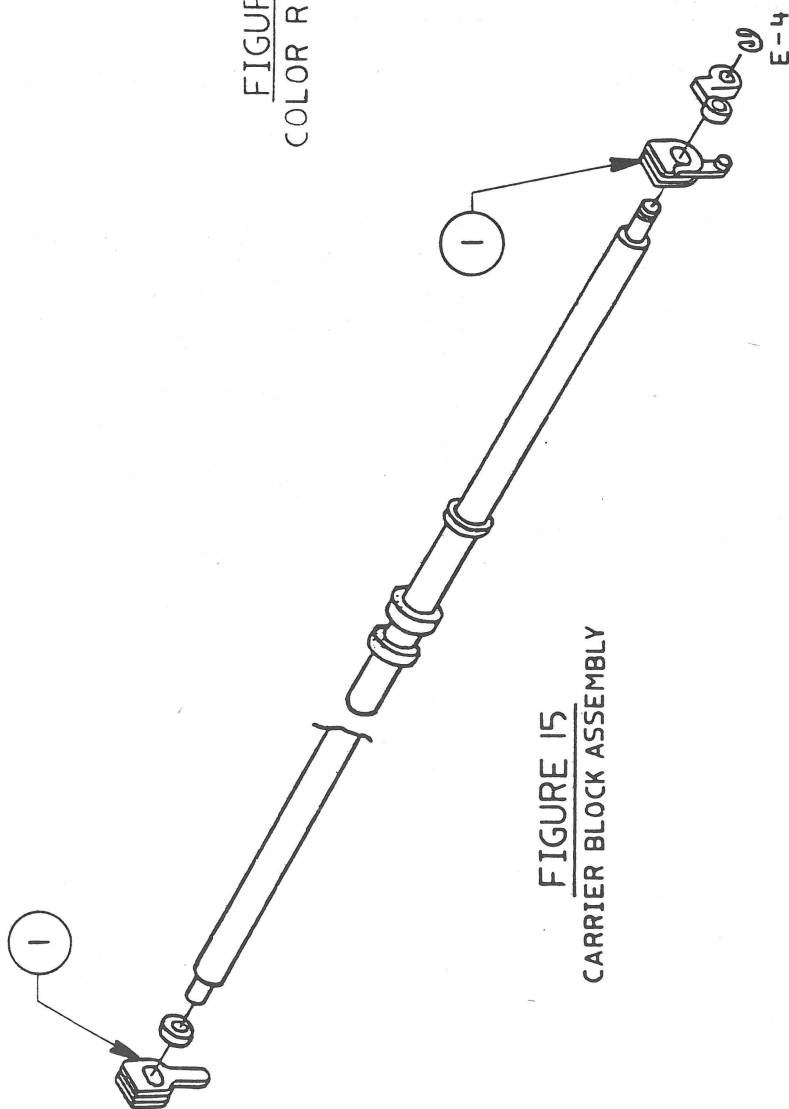

FIGURE 15
□ CARRIER BLOCK ASSEMBLY (Figure 15)